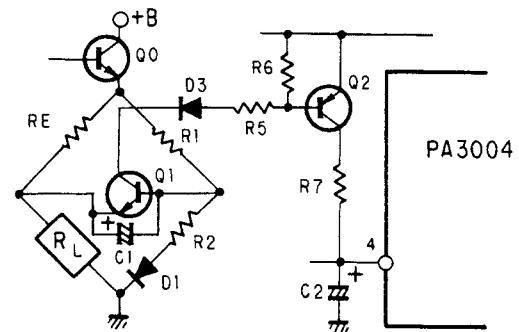

Fig. 6-6 Overload detector
The overload detector circuit incorporates the load (RL) in one side of a Wheatstone bridge (see Fig. 6-6). The base and emitter of a sensing transistor (Q_1) are connected to the opposite corners of the bridge, so if RL decreases, Q_1 will become forward biased. If RL falls below a prescribed value, Q_1 will turn on, thereby passing a current through R_6 , R_5 and D_3 . Due to the voltage difference generated across R_6 , Q_2 will become forward biased, and consequently turn on. A DC voltage will then be applied to pin no.4, turning S_2 on, and resulting in the rapid discharge of C_t , and S_1 and Q_r both turning off. The relay will again be released to disconnect the output circuit.